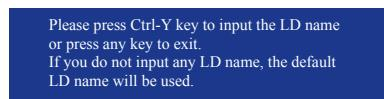

Figure 6
5. Press <Ctrl>+<Y> keys to save the information. The message in Figure 6 will appear. Press <Ctrl+Y> to input the array name. If you do not input the array name, the default array name will be used.